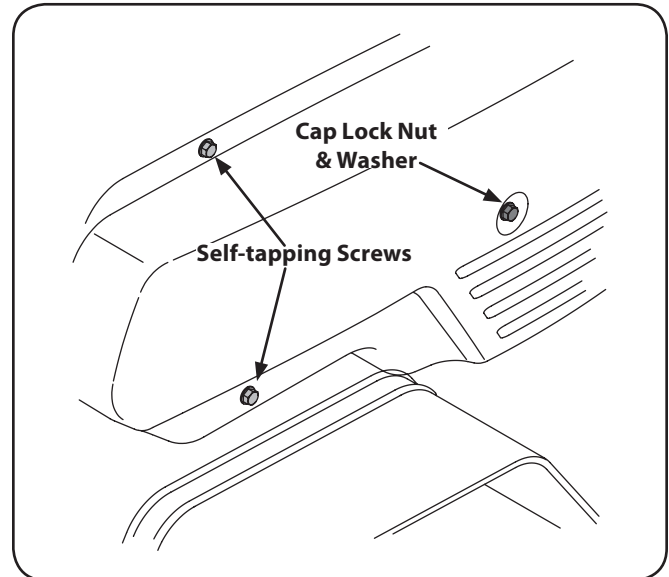

Figure 5-1
2. Remove the belt cover from the left side of the tiller by removing the two self-tapping screws and the hex stop nut and washer. See Figure 5-1.